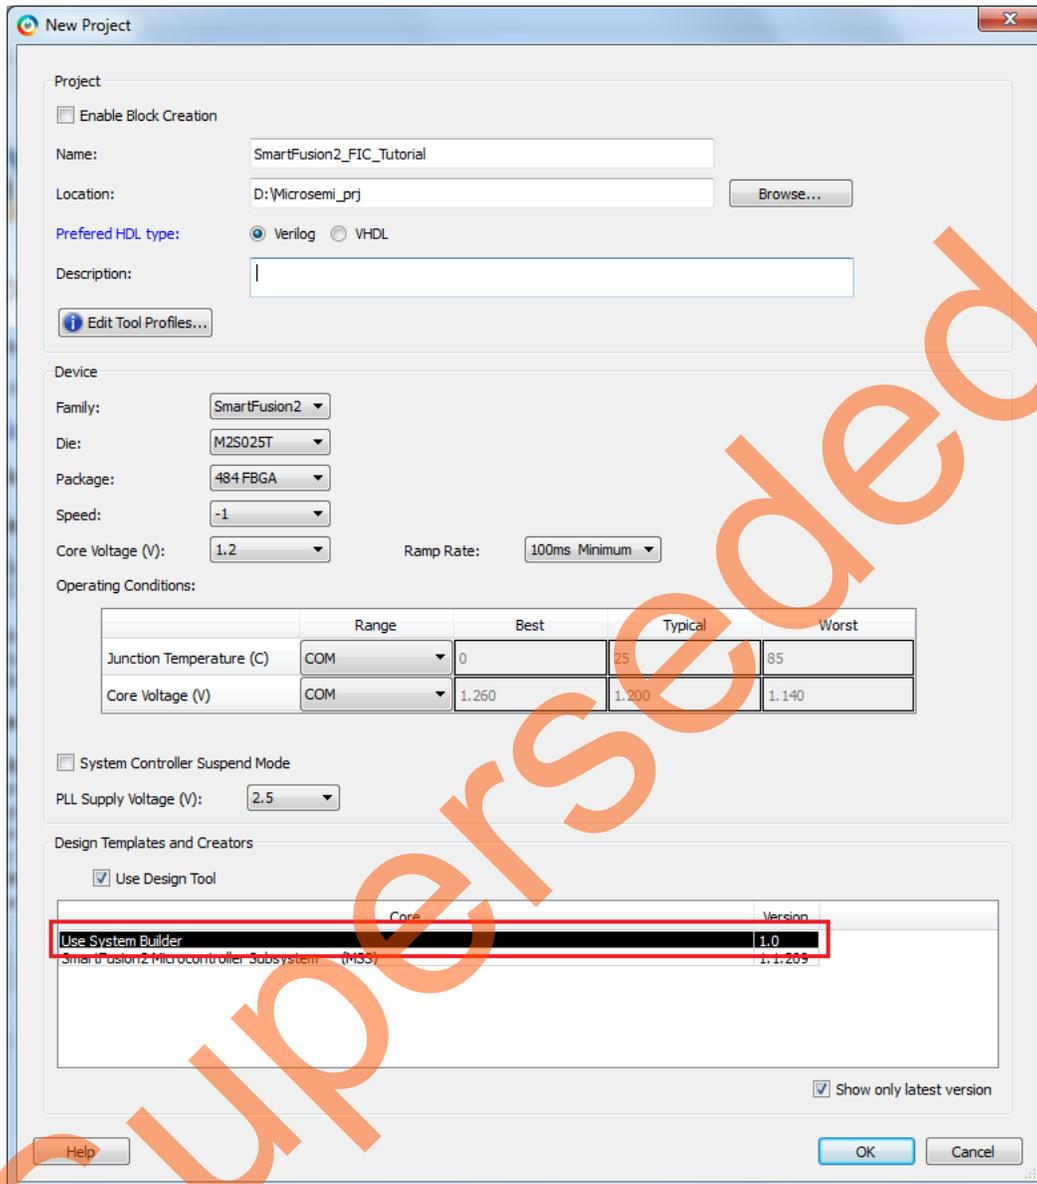
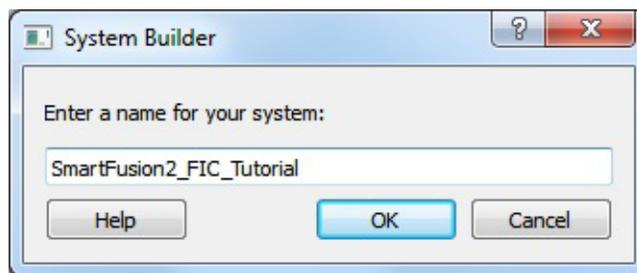

Figure 2 • New Project Wizard Dialog Box
Figure 3 • Libero SoC Project Window
- Since you selected **Use System Builder**, as shown in Figure 2, then **Enter a name for your system** dialog box is displayed, as shown in Figure 3.